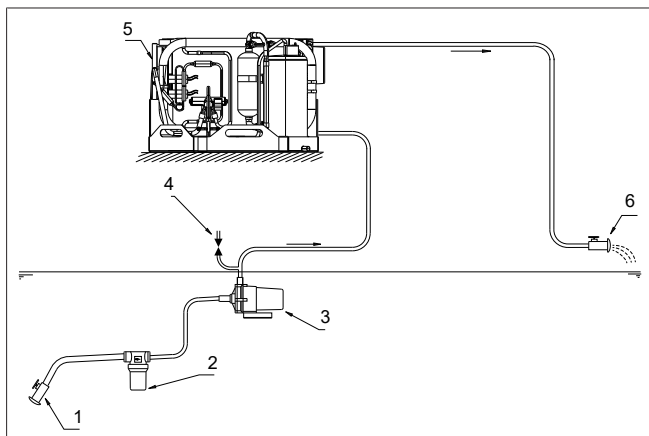

Fig. 6 Installation example
1. Installing the sea water pump (see Fig. 6).